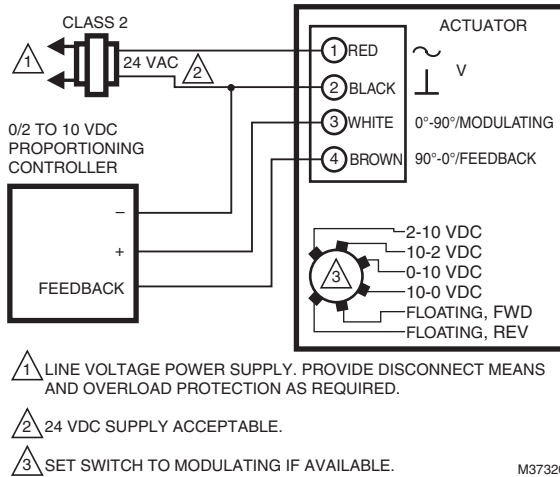

Fig. 14. Wiring for modulating (0/2-10 VDC) proportioning control, MS75 (shown) and MS71.
- a. VDC Input Signal: apply 5-6 VDC signal to control wire (WHITE). See Fig. 14.
- b. mA Input Signal: apply 10-12 mA signal to control wire (WHITE). See Fig. 14.
- c. Floating: apply 24 VAC to appropriate 0°-90° (3) or 90°-0° (4) wire until device reaches 50%.